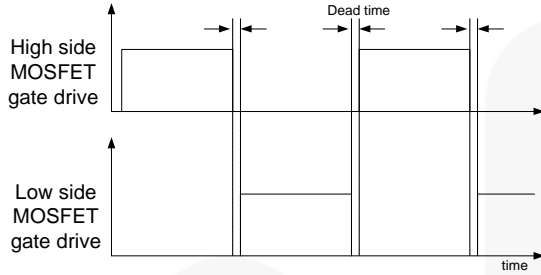

Figure 16. MOSFETs Gate Drive Signal
1. Basic Operation: FSFR-series is designed to drive high-side and low-side MOSFETs complementarily with 50% duty cycle. A fixed dead time of 350ns is introduced between consecutive transitions, as shown in Figure 16.